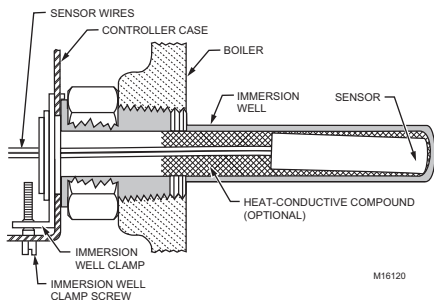

Fig. 2. Position of sensor in immersion well.
If the well is not a snug fit on the sensor, use the heat-conductive compound (furnished with TRADELINE® models) as follows: Fold the plastic bag of compound lengthwise and twist it gently. Then snip off end of bag and work the open end of the bag all the way into the well. Slowly pull out the bag while squeezing it firmly to distribute compound evenly in the well. Bend the wiring, if necessary, to hold outer end of the sensor in firm contact with the side of the well. See Fig. 2. Wipe excess compound from the outer end of the well.
3. Insert the sensor into the well as shown in Fig. 2 or 3. (See Replacement Sensor Installation section for details.)